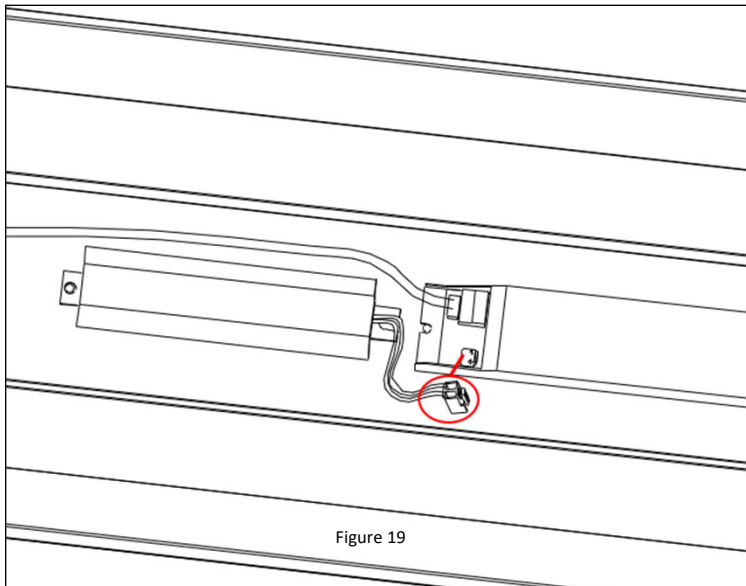

Figure 19
1. If installing an Emergency Fixture, you must connect the battery backup module to the emergency driver. **See Figure 19.**